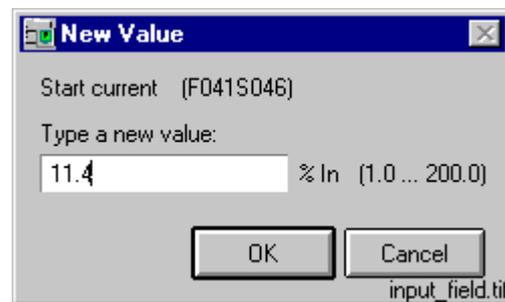

Fig. 5.4.7.3.-1 The input field of the Setting Tool
If there are multiple choices, the suitable alternative can be selected from the drop-down combo box (see item 4 in Fig. 5.4.7.2.-1). If the relay unit is protected by a password, the password is prompted before you can download the changes. To enter a new value, press the mouse button or any key in the New Value field (item 5 in Fig. 5.4.7.2.-1). A dialog opens in which you can enter the new value (see Fig. 5.4.7.3.-1). Item 6 is also an input field for the new value. Whether this is in use or not, is defined in the Object Configuration Tool.